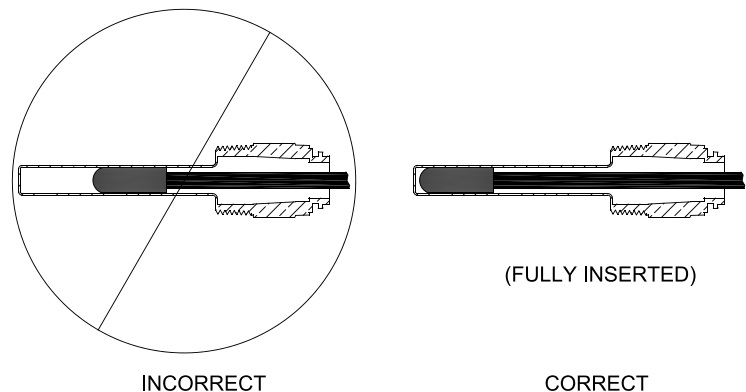

Figure 10: Limit Sensor Insertion
- b. On water boilers with rear tankless heater, the factory wired Warm Start Boiler Control was not installed in heater. Locate 3/4" NPT immersion well, apply sealant, thread into 3/4" NPT tapping on tankless heater and tighten with wrench. Apply heat transfer paste (not furnished) to limit sensor and fully insert limit sensor into immersion well such that the tip on the limit sensor touches the bottom of the immersion well. See Figure 10. Tighten clamp screws to secure Warm Start Boiler Control to immersion well. Secure Boiler Control conduit to jacket right side panel with 5/8" cable clamp provided, refer to Figure 1B. Make the wiring connections as shown on Figure 21.